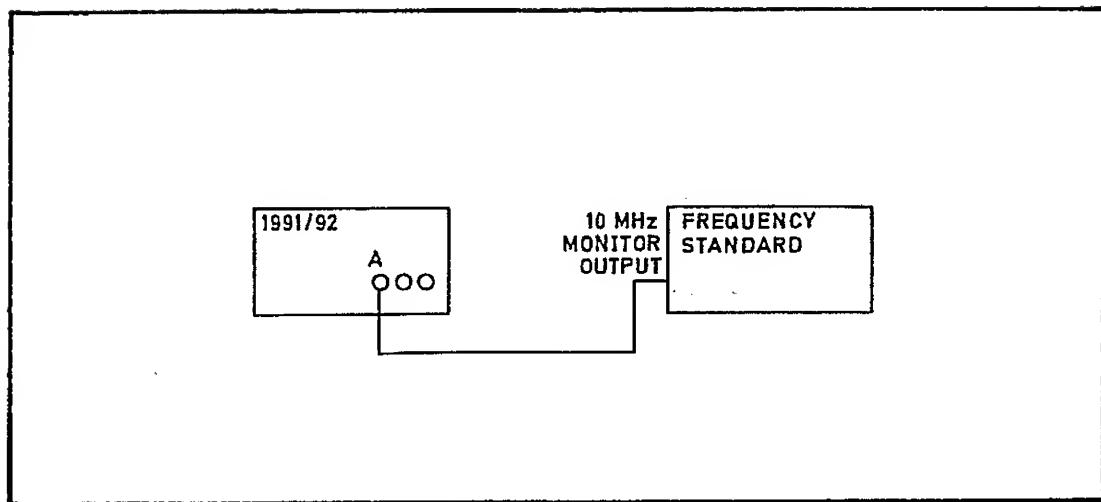

Fig 7.14 Connections for Internal Frequency Standard Adjustment
(2) Connect the test equipment as shown in Fig 7.14.